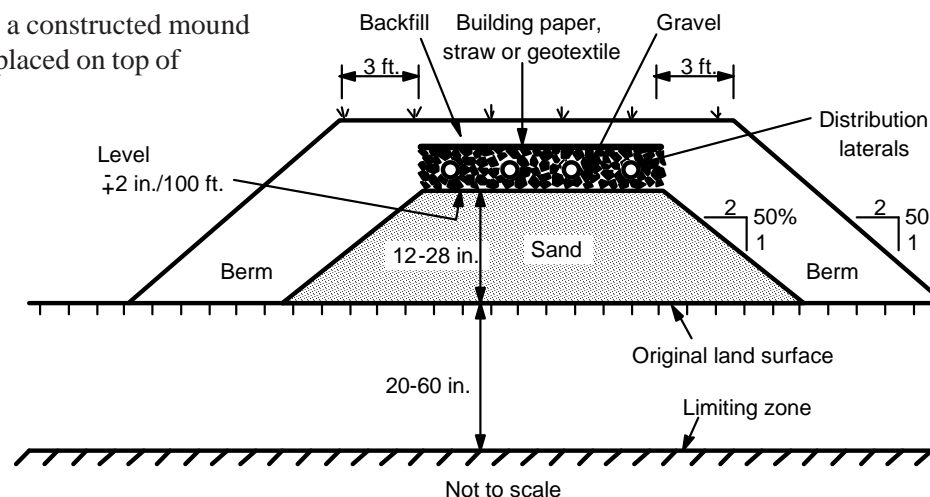

Figure 1. A cross-section of a bed mound.
tank called a dose tank, where the pump or siphon periodically distributes the effluent to the sand mound. The dose tank is an underground concrete or fiberglass chamber placed between the treatment tank and the effluent delivery line. It receives effluent from the treatment tank. When a prescribed volume of effluent has accumulated in the dose tank, the effluent is transferred to the sand mound. This process, called pressure dosing, uniformly distributes the effluent over the surface of the sand mound through the laterals, Figure 1. Most systems transfer effluent several times per day depending on the wastewater flow from the home. These periodic applications of effluent to the sand mound allow the mound to rest between applications of effluent. The mound can drain drawing air in, resulting in aerobic treatment of the wastewater.
First, cover the sand mound absorption area with enough approved sand mound sand to bring the vertical distance between the leveled top of the sand and the limiting zone to 48 inches. At least 12 inches of sand must be used. The depth of the sand layer is dependent on the site's depth to the limiting zone. For example, if the depth to the limiting zone is 20 inches, the depth of sand at the upslope edge of the absorption area must be 28 inches; the depth of soil plus this minimum depth of sand equals 48 inches. If the depth to the limiting zone is 36 inches (or more), the minimum depth of sand must be 12 inches; the depth of soil plus the depth of sand will equal at least 48 inches (more for those sites with a limiting zone between 36 and 60 inches). There must always be at least 48 inches of sand and soil above the limiting zone. It is important that the top of the sand layer be level. This helps ensure uniform flow of effluent through the sand and soil below the mound. The sides of the sand mound must be graded at a 2(H):1(V) slope. This is 2 feet horizontal for each foot of vertical drop as shown in Figure 1. Usually, the sand is a costly purchase because it must be tested and approved by the state. The sand supplier should provide a sand "spec" sheet showing that each load has been approved.
Next, the outer berm of the sand mound should be constructed with topsoil. This berm will hold the sand and aggregate in place, see Figure 1. Next, cover the level sand surface with aggregate (PennDOT gravel 2B and 3A meets the aggregate guidelines). Some installers place 6 inches of aggregate, place the distribution manifold and laterals and then add the final 6 inches of aggregate. Most installers place all 12 inches of aggregate and then dig trenches in the aggregate to receive the distribution manifold and laterals, before covering the pipes with aggregate. One and a half- or two-inch diameter PVC manifolds and laterals are common. The absorption area laterals may be spaced up to 6 feet apart and each lateral must have a series of holes spaced 6 feet apart and facing downward. The effluent must be pumped from the dose tank to a manifold that splits the long dimension of the seepage bed or the trenches. Laterals must be teed to both sides of the manifold. The first discharge hole in each lateral must be at least 3 feet from the manifold. The minimum hole-size shall be ¼ inch when a dose pump is used and 5/16 inch when a siphon is used. The laterals end in risers, which are used for inspection and cleaning. They can (and should) be